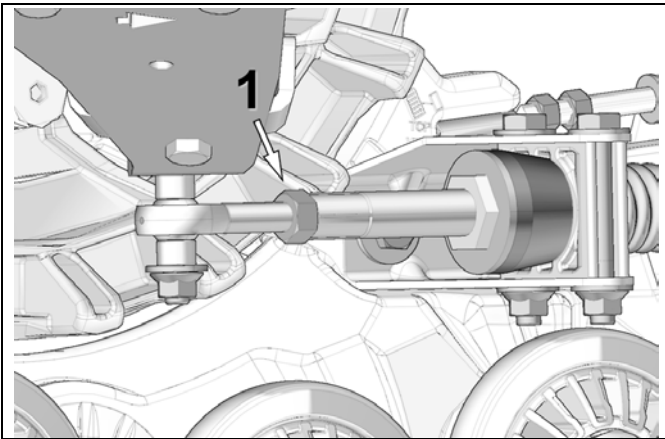

Figure 7
- When angle of attack is correctly set, tighten the jam nut (1) back against the stabilizing arm. See Figure 7.